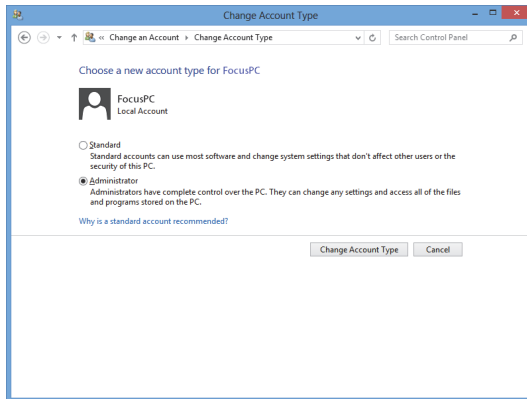

Figure 3-12 Selecting the Administrator account type
10. In the **Change Account Type** window, select **Administrator**, and then click **Change Account Type** (see Figure 3-12 on page 58).